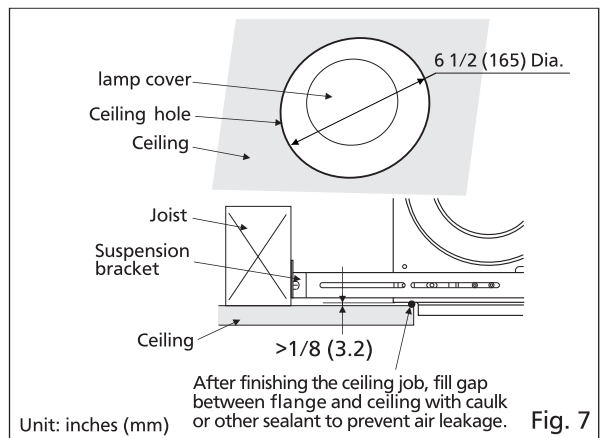

Fig. 7
10. Finish ceiling work. A circle ceiling hole ( 6 1/2 inches (165mm) dia.) should be cut. And make sure there will be a gap (>1/8 inches (3.2mm )) between bottom of fan body and ceiling. (Fig. 7)